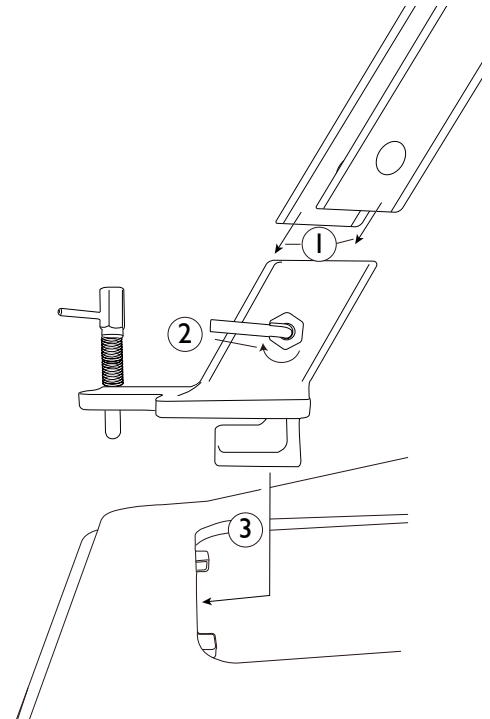

Figure 4. Assembling and installing the T49990 fixture
- 1 Assemble and install the T49990 fixture as shown (Figure 4, item 1 and 3).